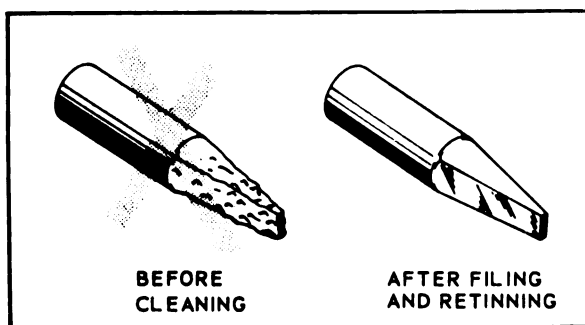

Figure 9-3. Soldering Iron Tip Before and After Cleaning
a. With the iron shut off, file each working surface of the soldering iron tip with a double-cut mill file until it is smooth and of a bright copper color. See figure 9-3. Remove copper fuzz from dressed edges with a file card.